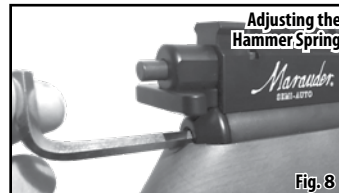

Fig. 8
2. To increase the energy, turn the hammer spring preload adjuster clockwise (Fig. 8), up to 6 revolutions, using a 1/4" Allen wrench.